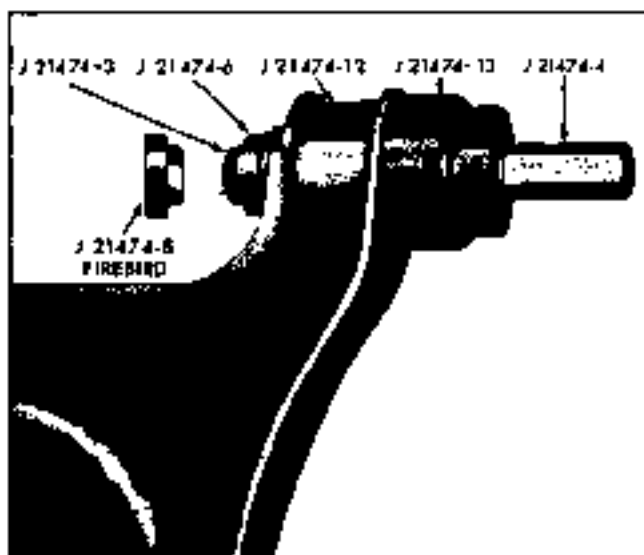

Fig. 3-20 Removing Lower Control Arm Front Bushing (Except Pontiac) and Rear Bushing - Pontiac
2. Remove bushing from control arm by arranging tools as shown in Fig. 3-20.